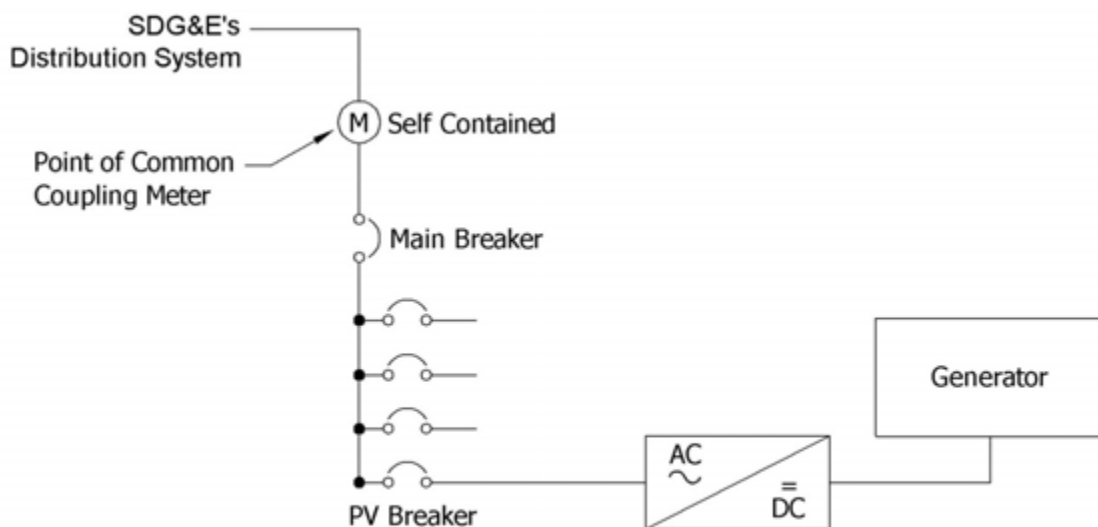

FIGURE 1
- e. Customers shall install plaques at all AC disconnects clearly stating their purpose is for operation by the Utility or authorized emergency responders. Refer to the following Figures 1 – 3 and notes.